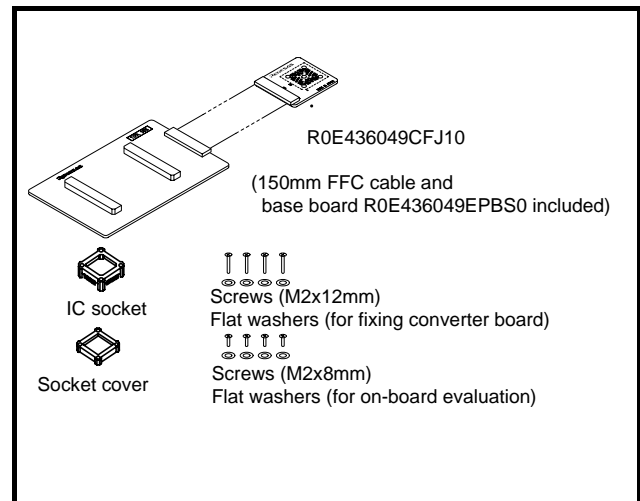

Figure 1 Package components of the R0E436049CFJ10
2. Package Components (See Figure 1)